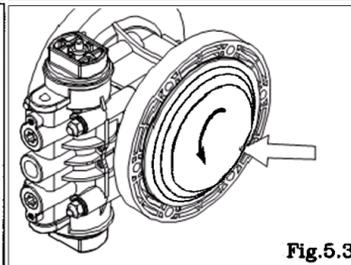

Fig.5.3
- Remove pump chamber both side to have access to the TU diaphragms. [Fig.5.3]